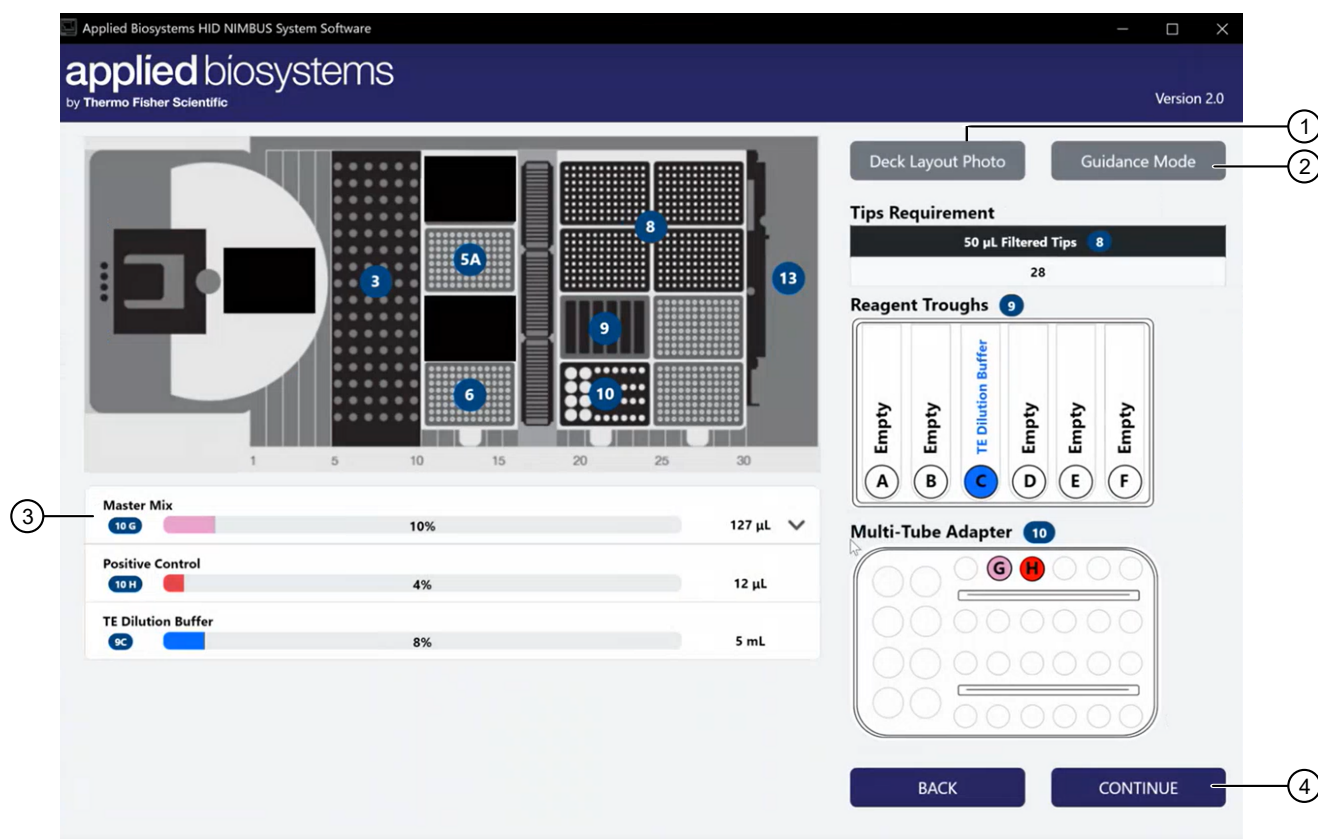
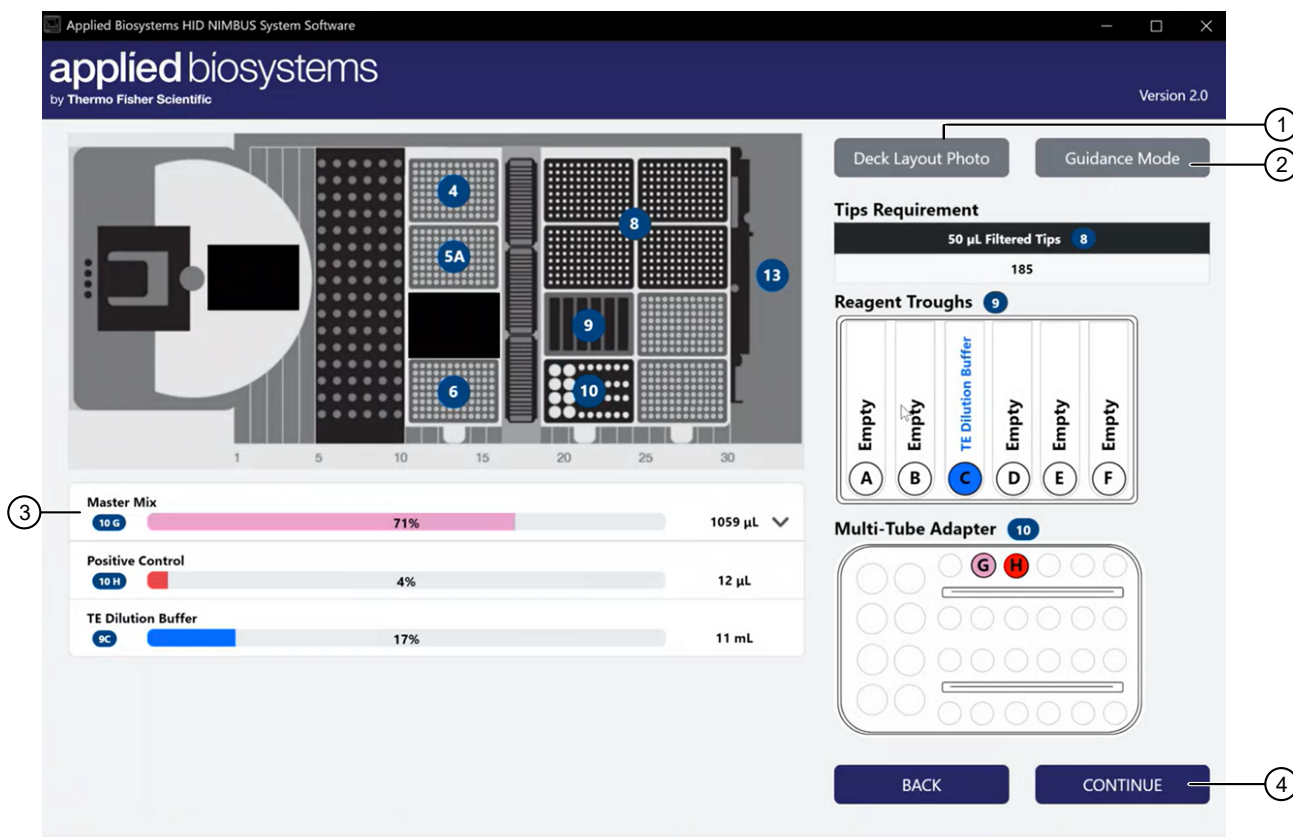

Figure 12 Example amplification deck layout with tubes as the input labware
Figure 13 Example amplification deck layout with a plate as the input labware
1. Place all the reagents on the deck according to the diagram in the **Deck Summary** screen (see Figure 12 and Figure 13).
IMPORTANT! The total number of 50 μ L tips is 384. The top left rack contains tips 1–96, the bottom left rack contains tips 97–192, the top right rack contains tips 193–288, and the bottom right rack contains tips 289–384. See Figure 12 and Figure 13.